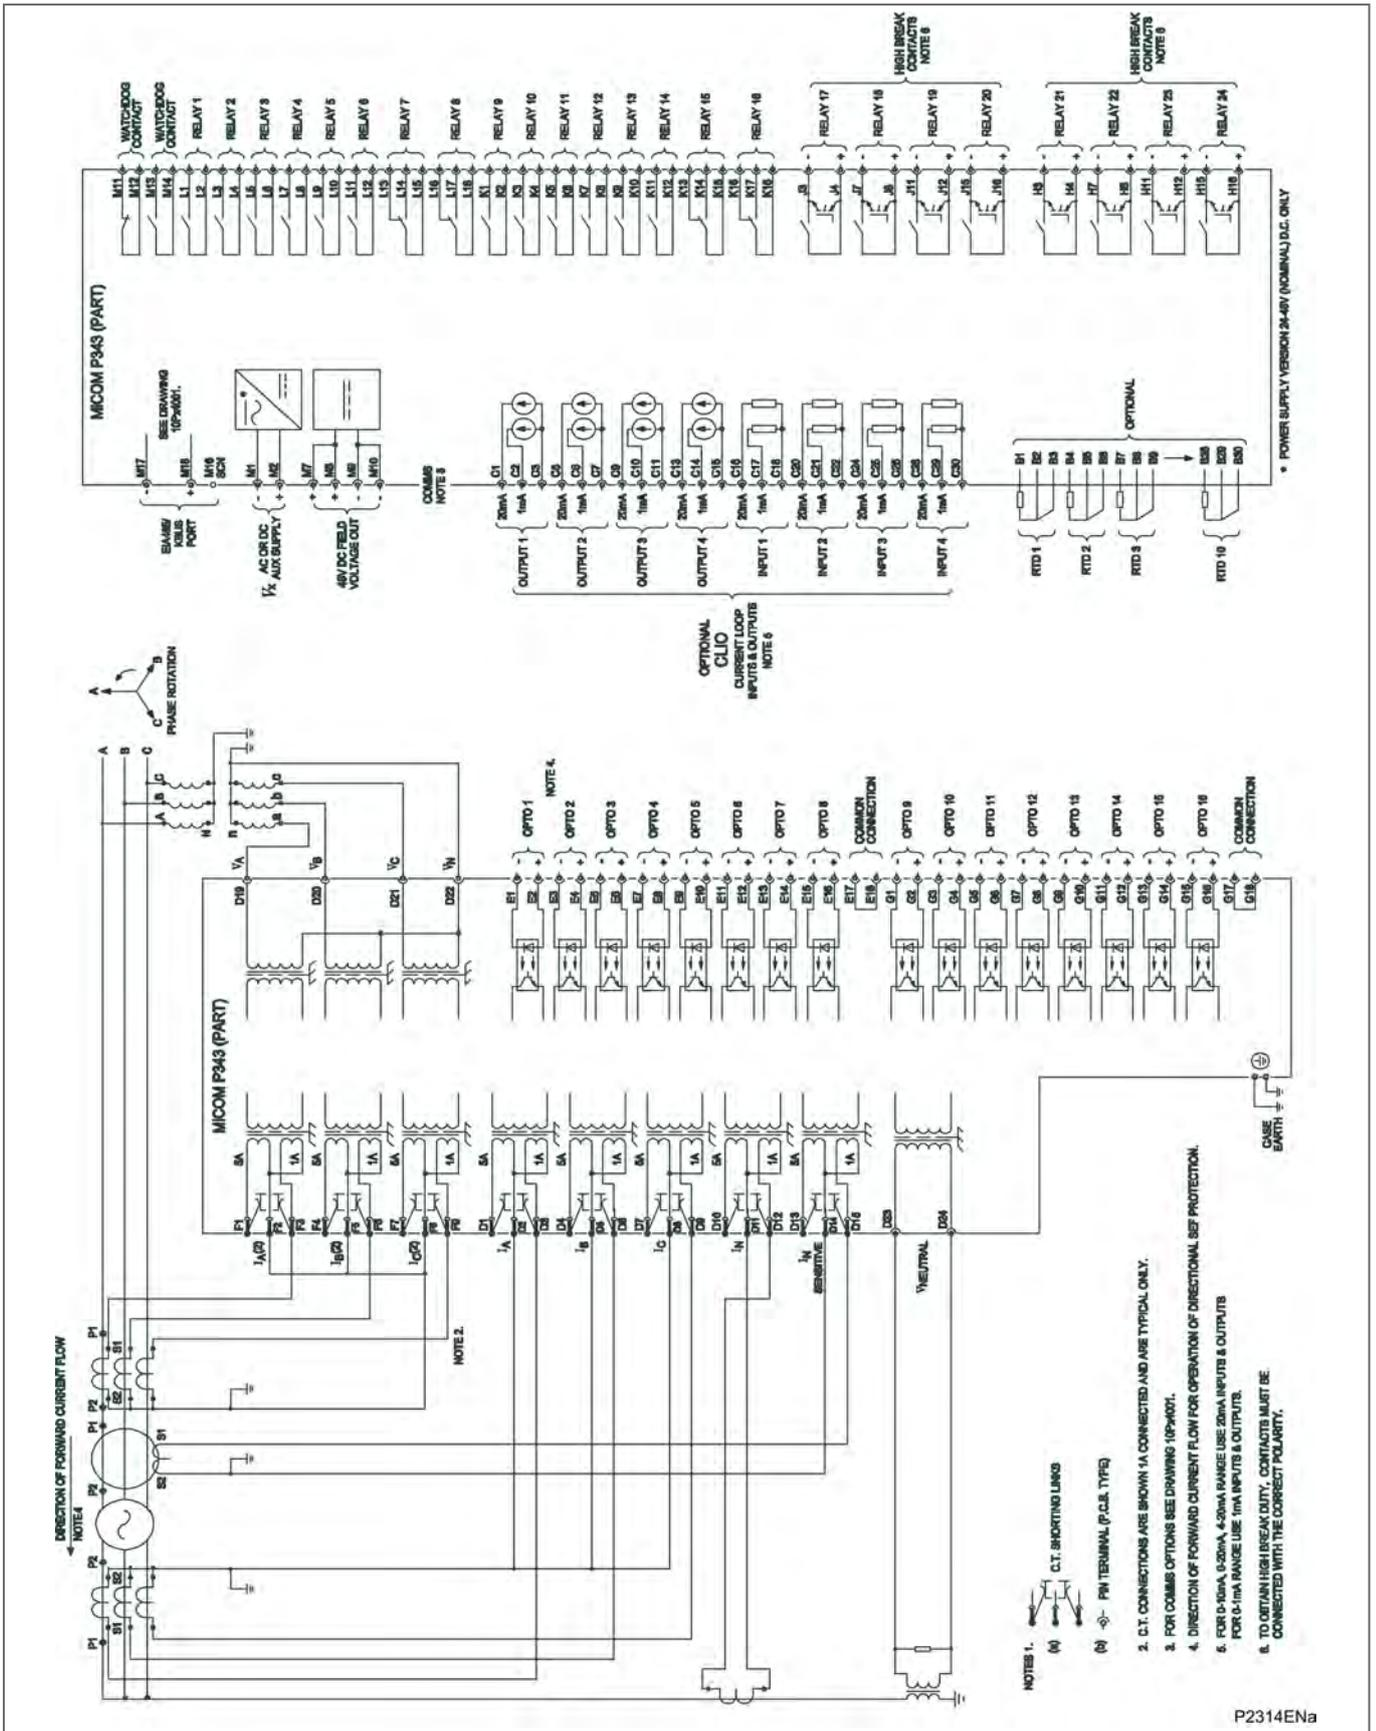

Figure 70 - P343 (80TE) with biased differential (16 I/P & 24 O/P (8 HB) & RTDs & CLIO)
- Figure 70 - P343 (80TE) with biased differential (16 I/P & 24 O/P (8 HB) & RTDs & CLIO)